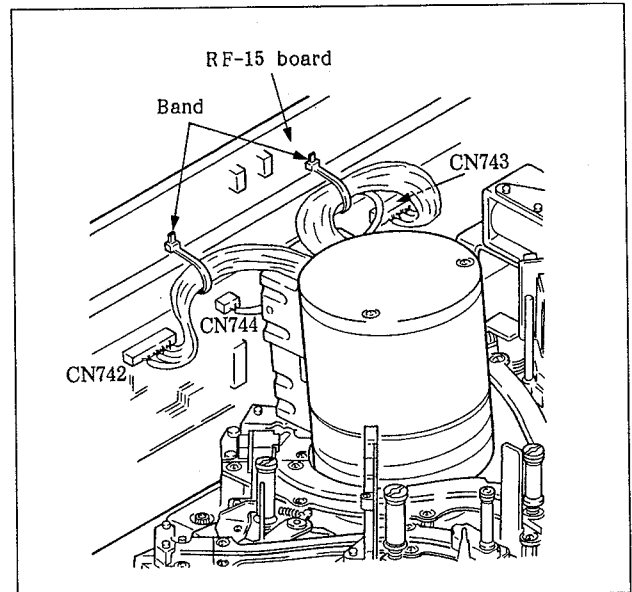

Fig. 6-6 Removing the Band and Disconnecting the Connectors
2. Disconnect the three connectors, CN742, CN743, and CN744, from the RF-15 board. (Fig. 6-6)
12. Insert the three connectors, CN742, CN743, and CN744, into their specified positions on the RF-15 board. (Fig. 6-6)